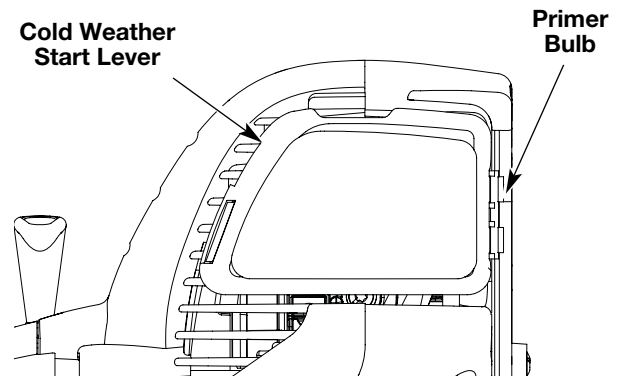

Fig. 10
- Place the gas container's spout into the fill hole on the fuel tank (Fig. 10) and fill the tank.
3. Fully press and release the primer bulb 10 times, slowly. Some amount of **fuel should be visible in the primer bulb** and fuel lines (Fig. 10). If you can't see fuel in the bulb, press and release the bulb as many times as it takes before you can see fuel in it.